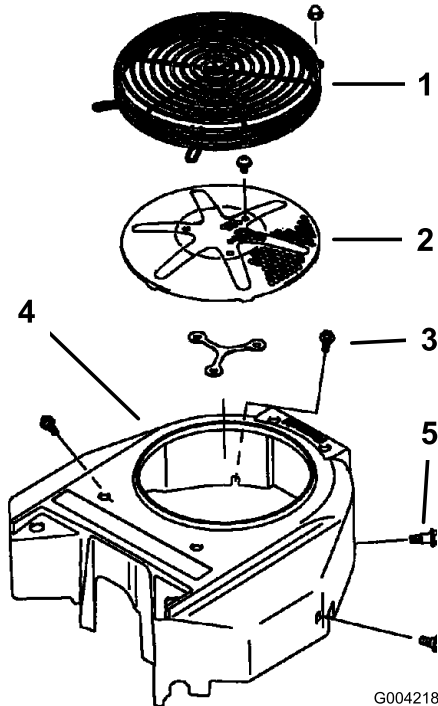

Figure 56
Before each use remove any build-up of grass, dirt or other debris from the engine screen. This will help insure adequate cooling and correct engine speed and will reduce the possibility of overheating and mechanical damage to the engine (Figure 56).
3. Remove the air intake screen, recoil starter and fan housing (Figure 56).
5. Install air intake screen, recoil starter and fan housing (Figure 56).